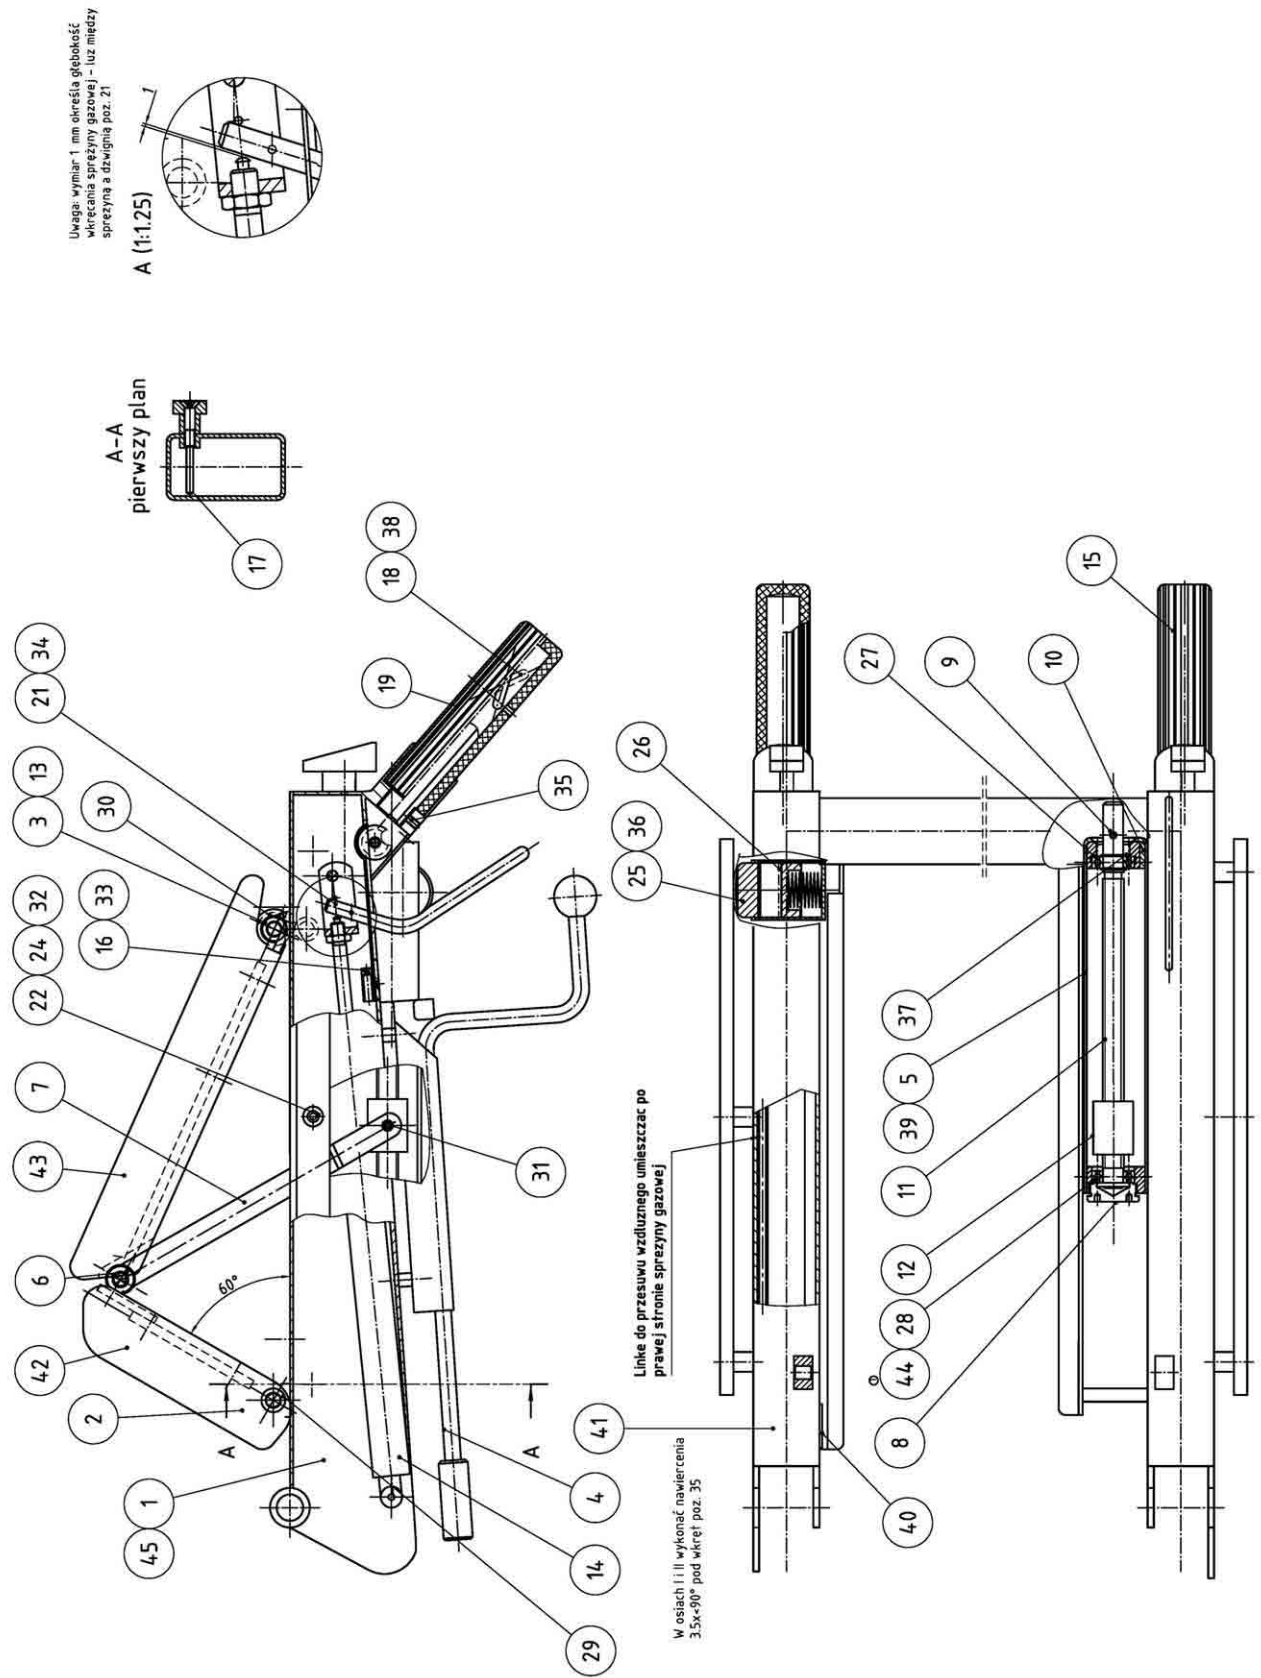
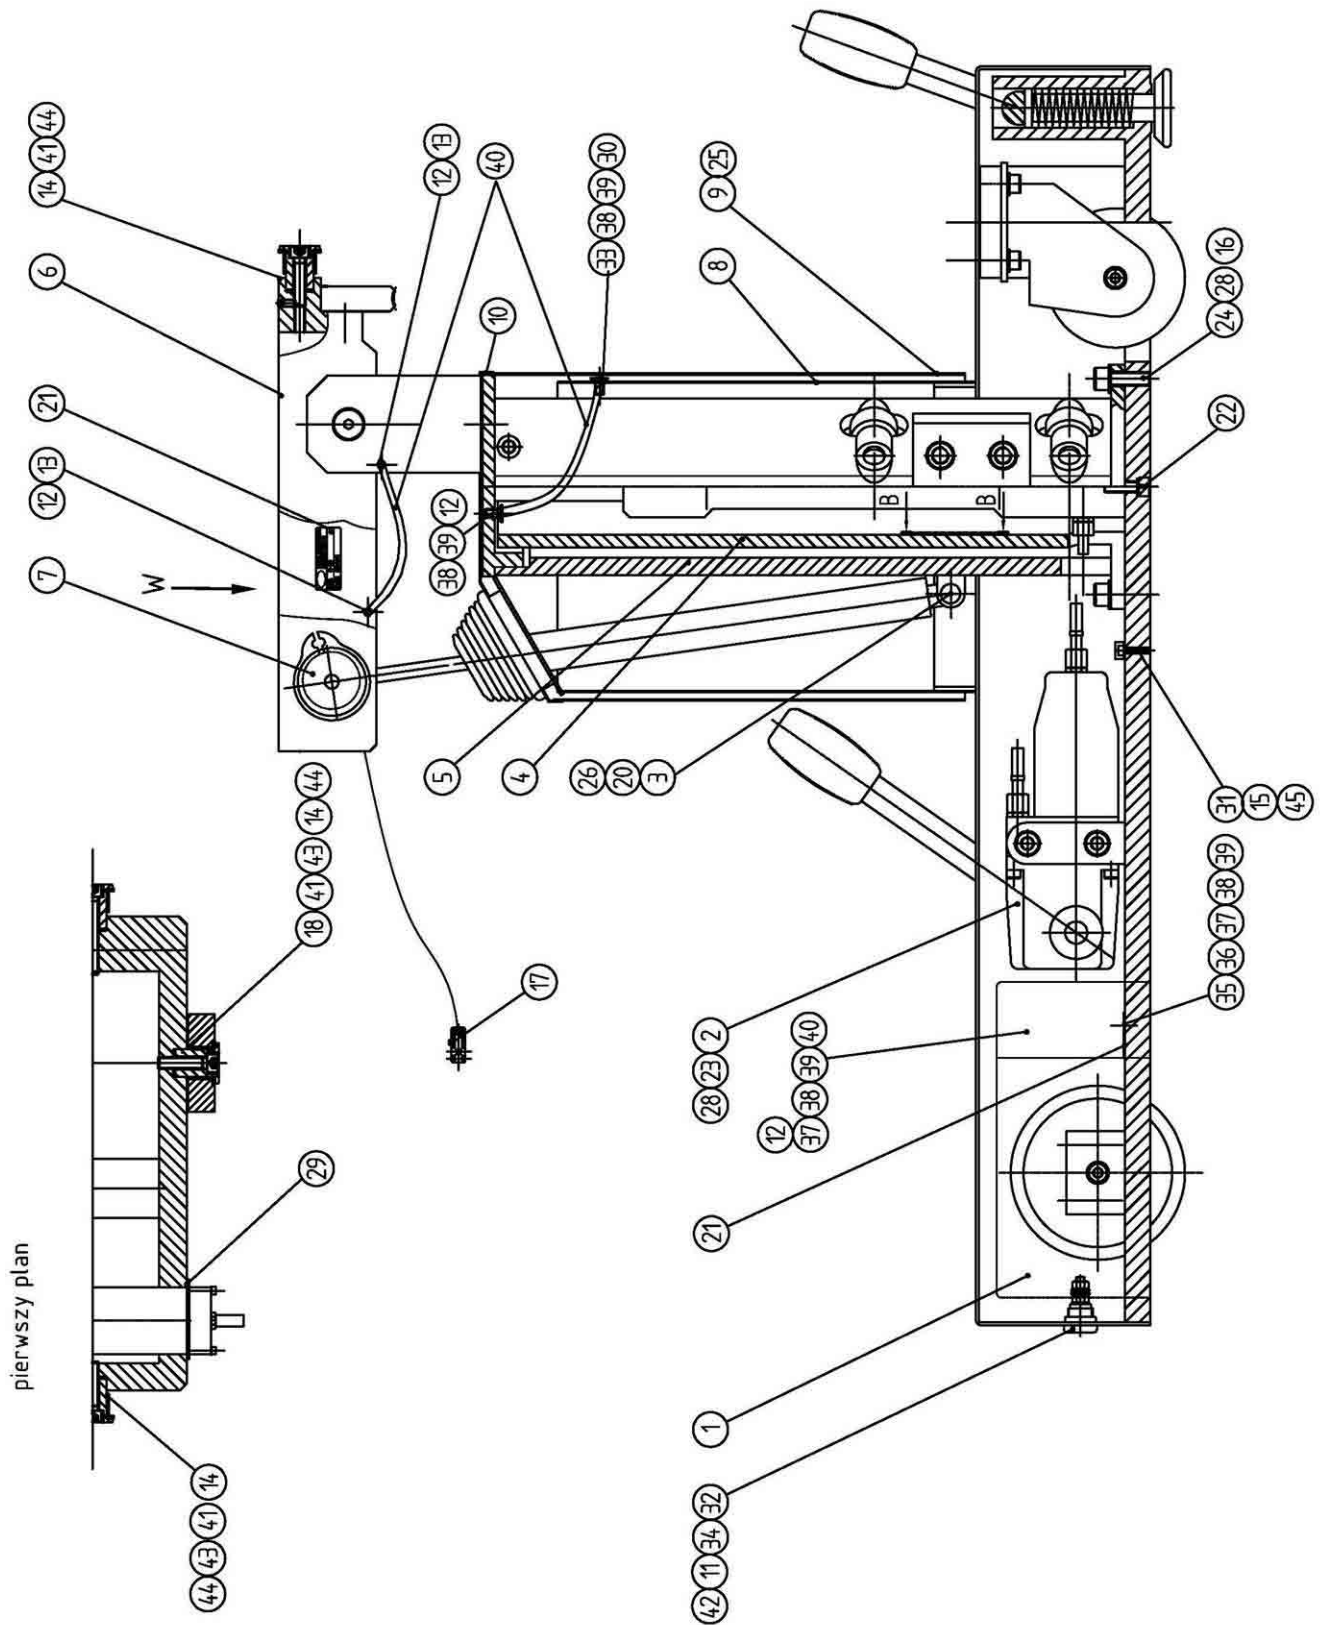

Fig.7 Backrest set
Fig.10 Base of the table in standard version
Disassembly of pneumatic springs (item 14, 41 on fig. 7)
1. Unscrew the M4 screw (item 34) and remove the lever (item 21).
4. Unscrew the M8 screw (item 32) which fixes the connector of the backrest drive (item 14, 41) to the framework (item 1) and take the backrest drive (item 14, 41) from the framework of the backrest (item 1).
8. Repeat activities from items 4 ÷ 7 for the second pneumatic spring.
Assembly of pneumatic springs (item 14, 41: fig. 7)
3. Put the backrest drive (item 14, 41) in the frame of the backrest (item 1).
4. Screw the M8 screw (item 32) which fixes the backrest drive to the backrest framework (item 1).
5. Repeat activities from items 2 ÷ 4 with the other spring.
3. Put the end of the armour in the bumper set (item 16 on fig. 7) and pull it through the roll in the upper part of the framework of the backrest.
4. Put a driver (item 17 on fig. 10) on the end of the cord and pull it through the axis II (item 18 on fig. 7) which should be screwed to the framework of the seat.
5. Place the handle II (item 19 on fig. 7), put a peg (item 38 on fig. 7) through the handle II, the axis II and the driver.
5. Unscrew M3 screws (item 25 on fig. 10) from the fixed cover (item 9 on fig. 10),